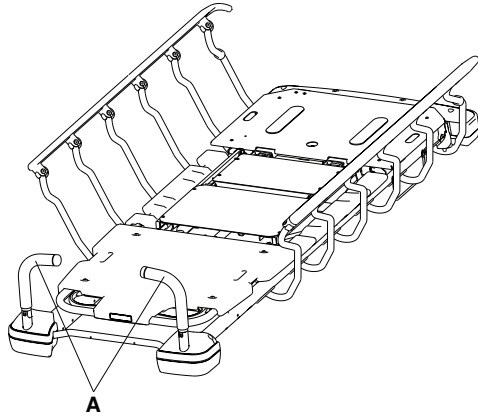

Figure 10 – Positioning the head end push handles
1. Pivot the push handles (A) up from the head end of the product (Figure 10).